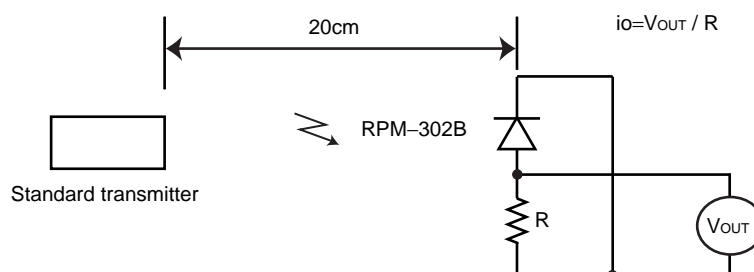

Fig.2 Measurement of standard transmitter proof reading.
*1 The burst wave form mentioned in Fig.1 is to be transmitted from standard transmitter(Fig.2)
When standard transmitter output the signal at Fig.1 standard photodiode output become $i_o=5\mu\text{A}$ p-p under the measurement condition Fig.2.